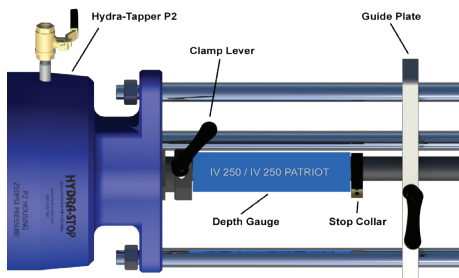

FIGURE 54
3.0.16) Slide and place the corresponding guide plate within 2" of the stop collar, then lock the clamp lever (see Figure 54).